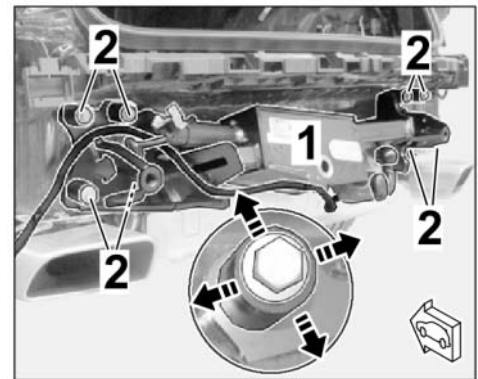

Figure 7
2.1.2 Align bolt guides for the trailer hitch (8 x) symmetrically with respect to the 8 bolt heads M12 x 1.5 x 90 (⇒ *Figure 7 -Magnifier-*).